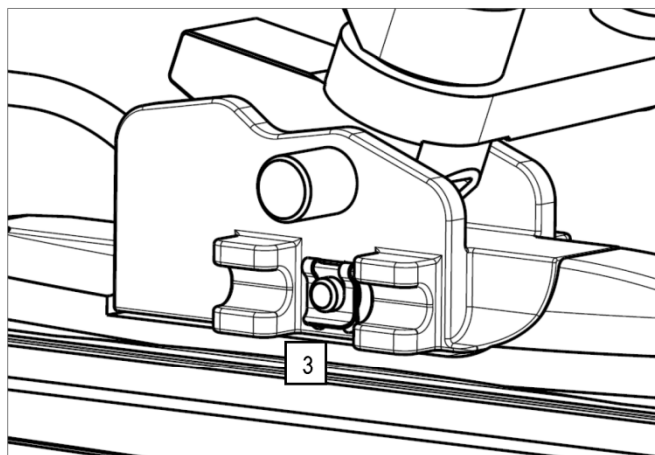

Figure 3
- 3) Remove the Circlip (3) PN 85-142-02 by lifting the circlip tongue with a flat-headed screwdriver (Ref. Fig. 3 and 4).
- 5) Replace the Wiper Blade Spray Nozzle PN 3G3040V01151 with a new one, install the new Circlip (3) in place as showed in Figure 3 and 4 and connect the water distribution hose (1) to the proper fitting, fixing it by means of a tiedown (5) PN A629A04HS (ref. fig 5)